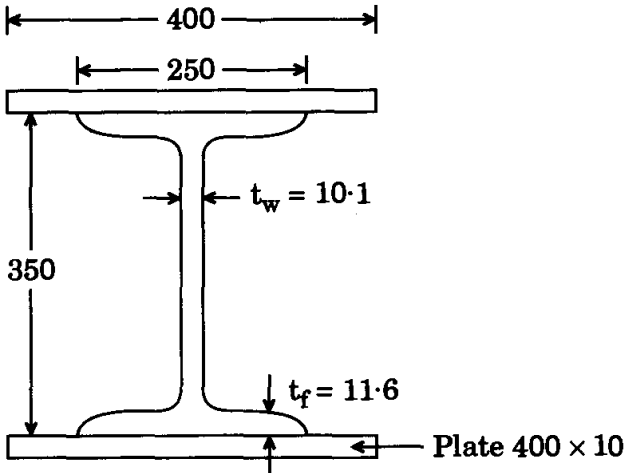

Figure 3
6. A column is made up of an ISHB 350 @ 72.4 kg/m with two flange plates 400 × 10 mm section each, as shown in Figure 3. Find the total load carrying capacity of the column, if the effective length of the column is 4.5 m. Take $f_y = 250$ MPa.